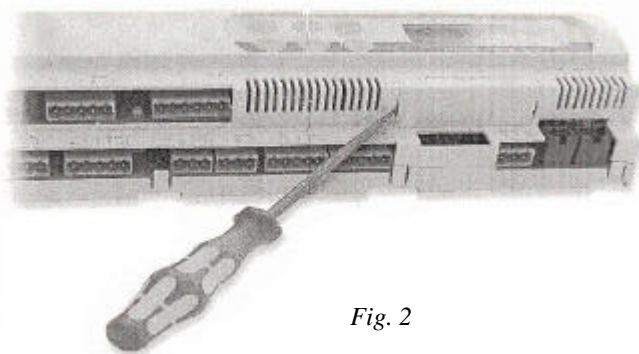

Fig. 2
- Switch off the pCO² and remove the “expansion memory” cover with a screwdriver (see Fig. 2)